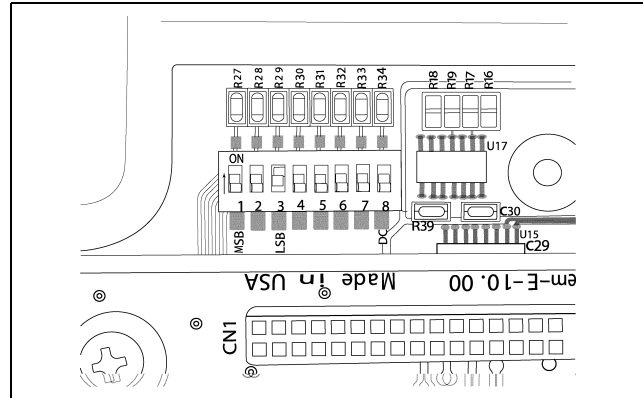

Figure 11D Dipswitch located in upper left hand corner.
3. Make sure dipswitch #4 is set to the “ON” position. The dipswitch (SW2) is located in the upper left corner of the network controller. *(See Figure 11D on Page 41.)*